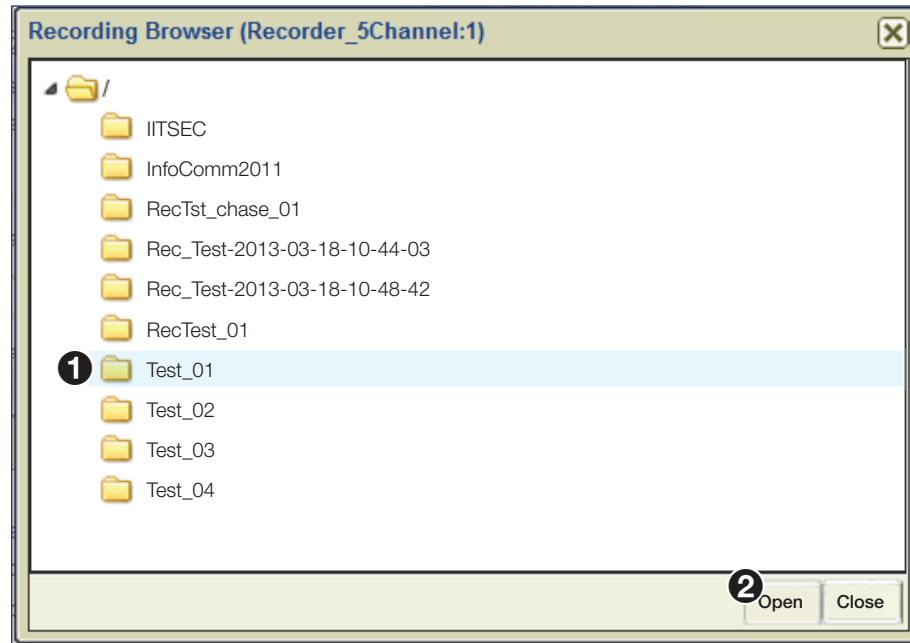

Figure 113. Recorder Browser, Directory Browsing
The File Recording browser opens (see figure 113 on the next page).
4. In the browser, click the directory containing the desired file (the directory is highlighted, see figure 113, ❶).
5. Click **Open** (see figure 113, ❷).